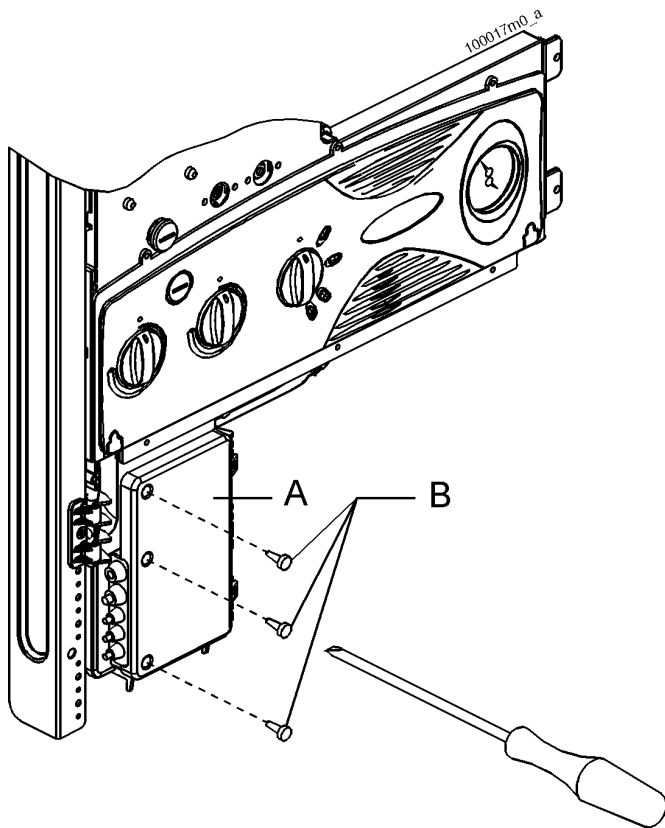

Figure 6 - Opening the electrical connection box
The heater must be connected to a 115V 60Hz, single phase electrical supply fused to 15 amps. An electrical junction box (see figures 6, 7, 8) is provided for connections for both the line voltage of 115V 60 Hz..
To connect the wires of the room thermostat, proceed as follows (refer to figures 6, 7 and 8):
- back off the three screws "B" (see fig. 6) from box "A";
- open the door "A" (see fig. 6);
To connect the electrical power cable, proceed as follows (refer to figures 6, 7, and 8):